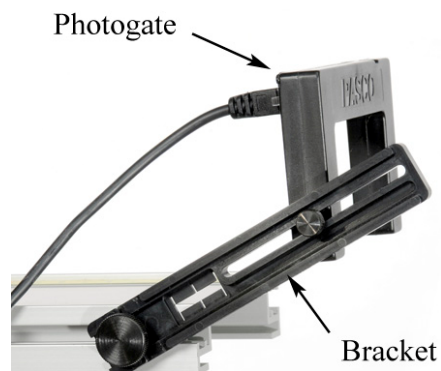

Figure 2: Reversed Bracket
2. The Photogate Bracket (see Figure 2) is cantilevered out over the end of the track. Note that the bracket is put on "reversed" so that it doesn't key into the track. This allows you to angle the bracket and Photogate.